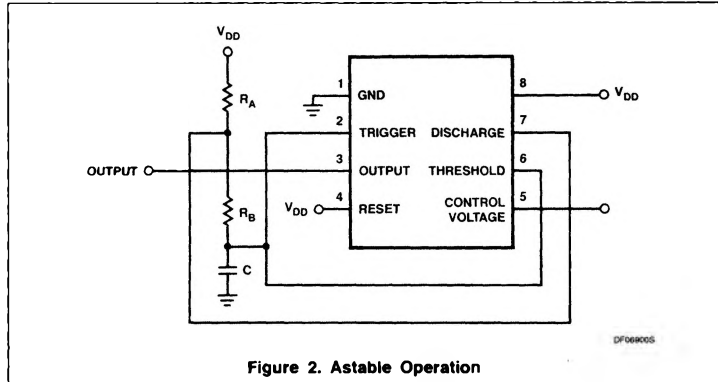

Figure 2. Astable Operation
2. Astable timing is calculated using the following equation: $f = \frac{1.38}{(R_A + 2R_B)C}$. The components are defined in Figure 2.
nents are high impedance. Therefore, use high values for R and low values for C in Figures 2 and 3.
If the circuit is connected as shown in Figure 2, it will trigger itself and free run as a multivibrator. The external capacitor charges through R_A and R_B and discharges through R_B only. Thus, the duty cycle (D) may be precisely set by the ratio of these two resistors. In this mode of operation, the capacitor charges and discharges between $1/3 V_{DD}$ and $2/3 V_{DD}$. Since the charge rate and the threshold levels are directly proportional to the supply voltage, the frequency of oscillation is independent of the supply voltage.